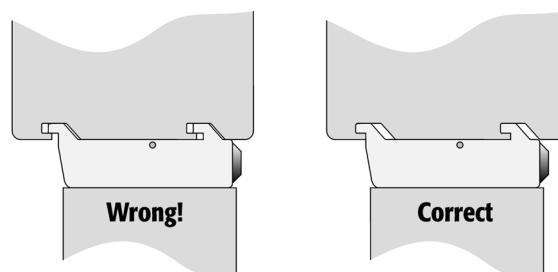

Figure 5 Attaching PAL objects to the PAL X-axis
- 5 Double check if the PAL dilutor mounting clamp is correctly attached to the PAL X-axis (see Figure 5, page 10)